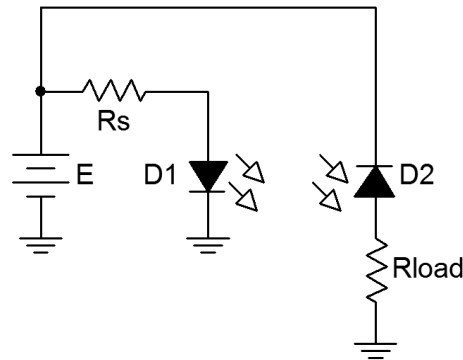

Figure 1
5. Figure 1 shows an emitter/detector pair. These devices will emit and detect light at the same wavelength and tend to not produce or detect light at other wavelengths. This aids in avoiding interference. The detector is configured in photoconductive mode. Its current will increase with increasing light level. This current also flows through R_{load} meaning that V_{load} will be proportional to light level.
6. Build the circuit of Figure 1 using $E = 7$ volts, $R_s = 470 \Omega$ and $R_{load} = 33 \text{ k}\Omega$. The emitter diode is denoted with a yellow dot on its case while the detector diode shows a red dot. It is very important